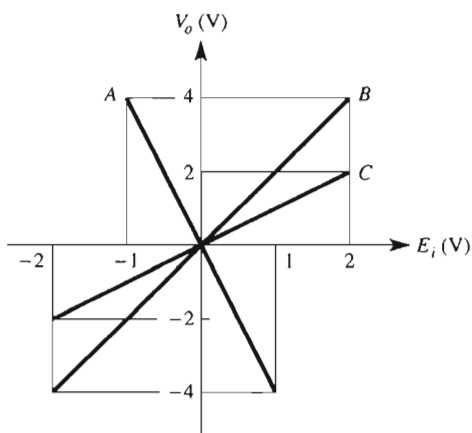

FIGURE P3-13
- 3-13. Input-output characteristics are shown for three different circuits in Fig. P3-13. Design circuits to re-create plots A, B, and C.